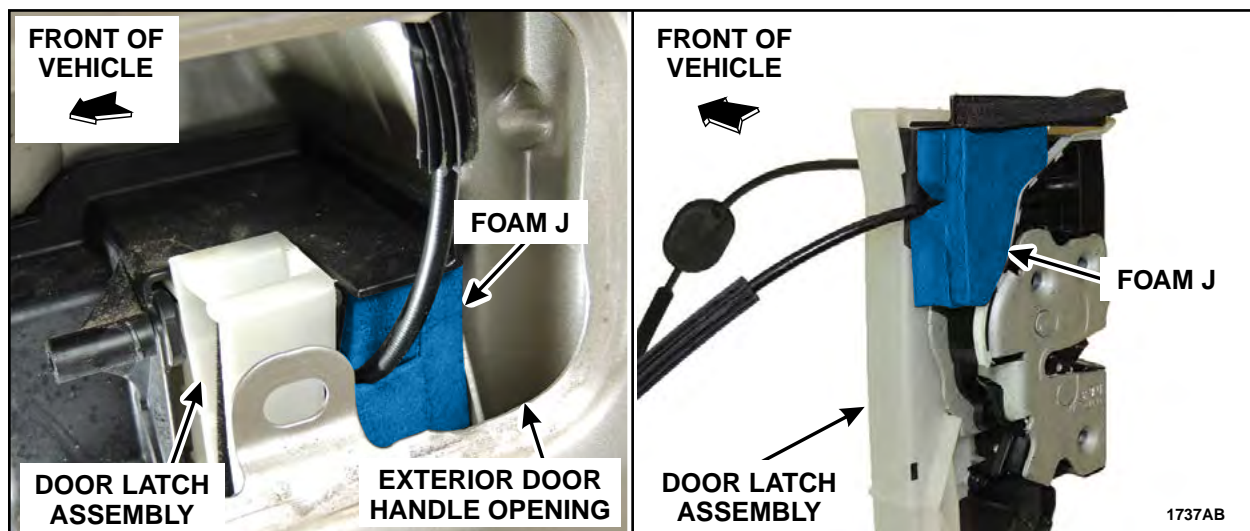

FIGURE 75
1. Install Foam J onto the rear door latch. See Figure 75.